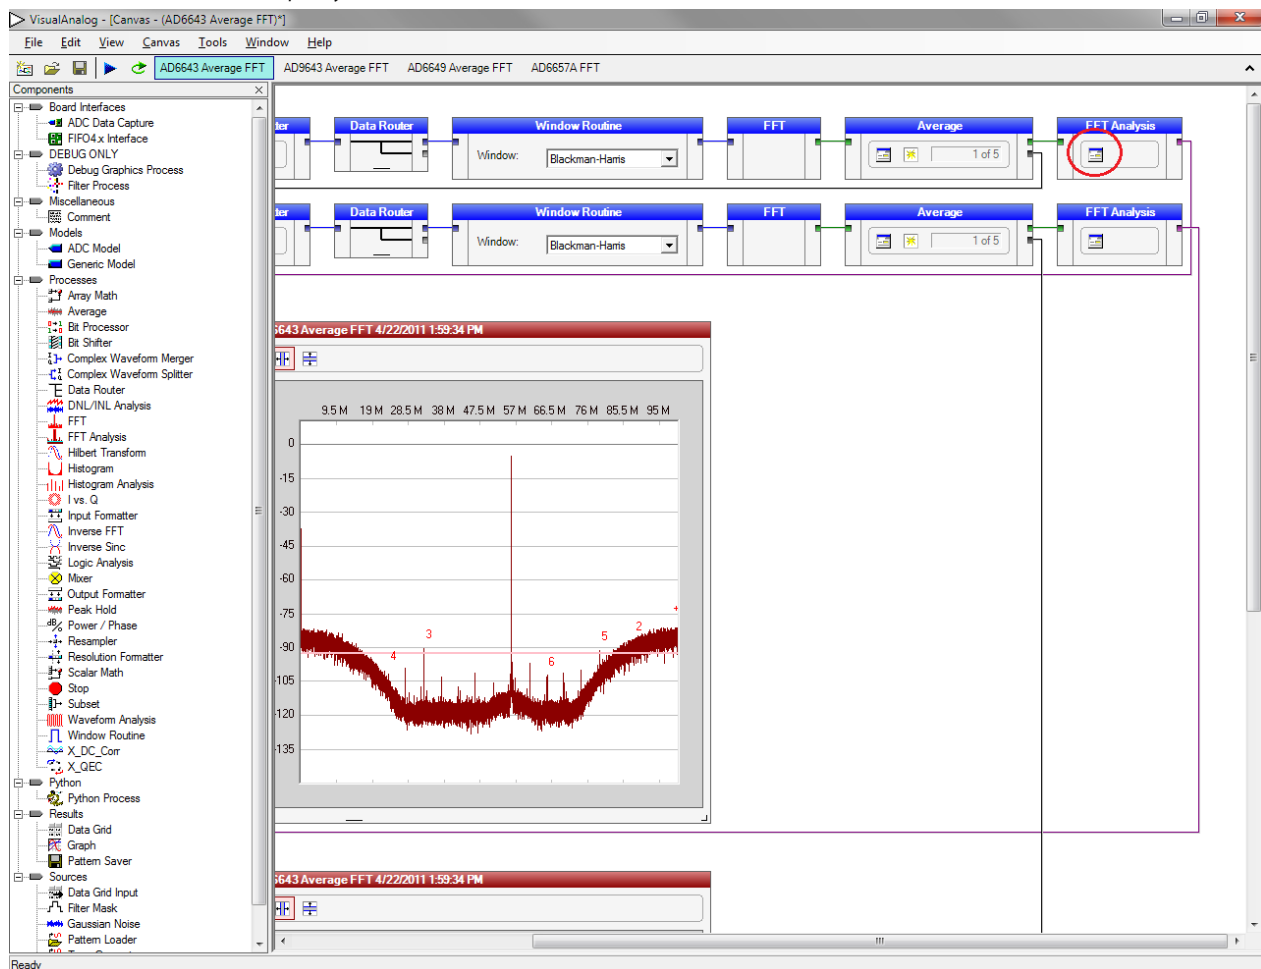

Figure 20. VisualAnalog, Main Window—Showing FFT Analysis for **AD6643**
- If operating the **AD6643** with NSR enabled, certain options in VisualAnalog must be enabled. Click the button circled in the **FFT Analysis** box (see Figure 20) in VisualAnalog to bring up the options for setting the NSR.